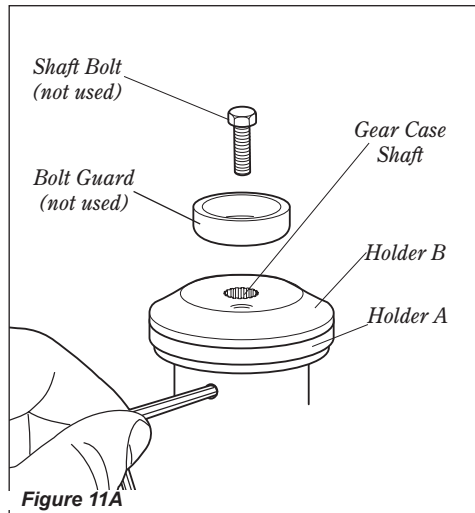

Figure 11A
1. With the gear case output shaft facing up, rotate the gearshaft and holder A until the hole in holder A aligns with the matching hole in the gear case flange, and then lock the holder to the gear by inserting the long end of the hex wrench through both holes. See Figure 11A.
2. Using the combination spark plug/screwdriver wrench, remove the shaft bolt and bolt guard. See Figure 11A.